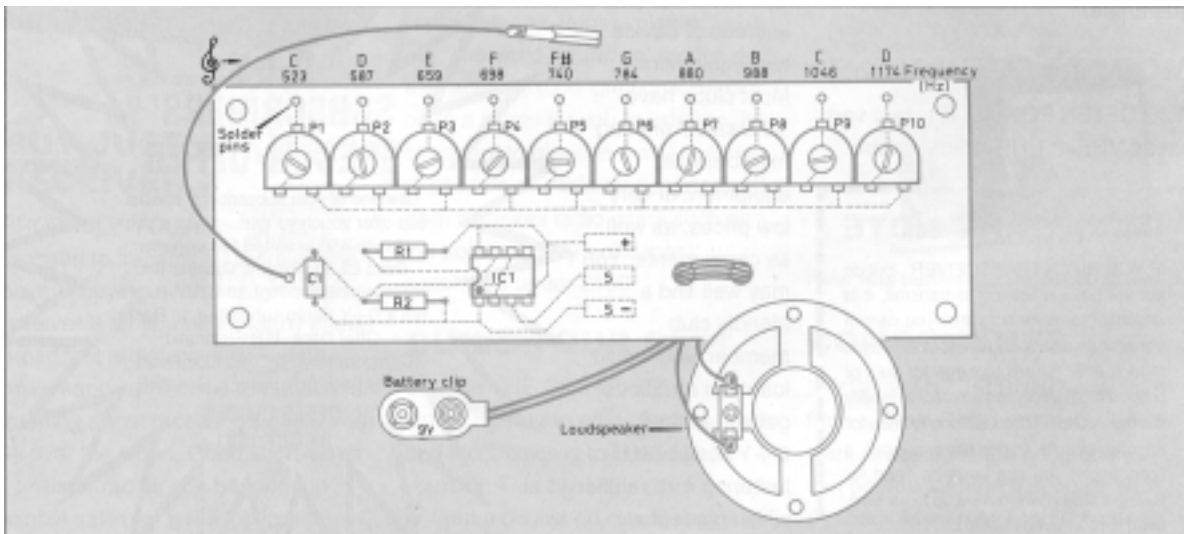
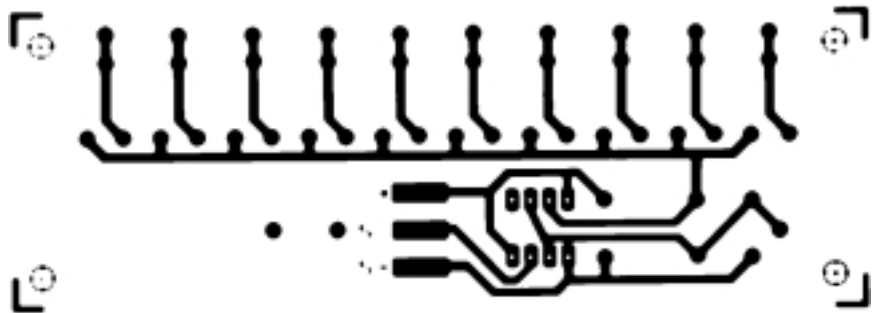
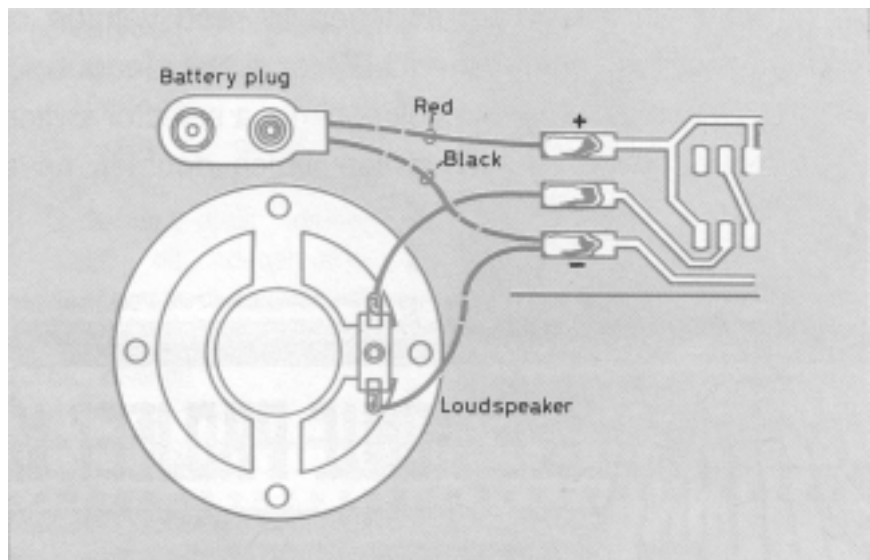

Figure 2 Position of components on the printed circuit board (PCB)
Figure 3 The connections
Figure 4 Battery plug and loudspeaker connections
- (a) Using a PCB. The job is very simple. The placement of components on the unsoldered side of the board is shown in **Figure 2** and the design on the copper track is illustrated in **Figure 3**. Put each component, in turn, on the board, making sure that it lies flat on the board with its tags or wires going cleanly through the holes provided for it; then, solder the wires to the board, cropping them before or after the soldering,
depending on your preference. If you choose to use a holder for your integrated circuit (highly recommended if your soldering is less than perfect), make sure that the end with a notch in it faces R1 and R2, as shown in Figure 2. Solder the two leads to the speaker to the tabs marked S (either way round), having looped them through the two holes to the right of the tabs in Figure 2. Looping them through the holes acts as a strain relief, ensuring that the soldered joints are not subjected to pulling and bending as you move the wires about. Do the same with the battery leads, the red lead going to the + tab and the negative lead to the - tab (which also has one speaker lead already attached to it). **Figure 4** shows this in detail. Treat the loudspeaker with care – the cone is quite fragile and must not be touched.
- (b) Without a PCB. This is more difficult, and you may need to enlist some help. Using some matrix board (such as Veroboard) is probably the best way of replacing the PCB. You could arrange your circuit in exactly the same way as in the PCB in Figure 3, using wires to replace the copper track.
The keyboard is a row of solder pins along the rear edge of the PCB, one for each note covering the range shown in Figure 2. A flying lead with a small spade on it is provided to touch any of the pins in turn, producing any one of ten different notes.